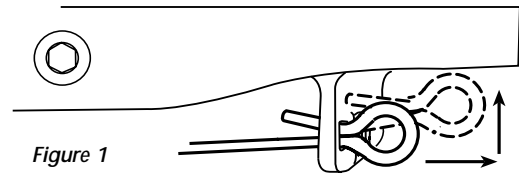

Figure 1
1. If manual secondary, pull manual secondary release handle out and up, hooking it on casting, as shown in *Figure 1*.